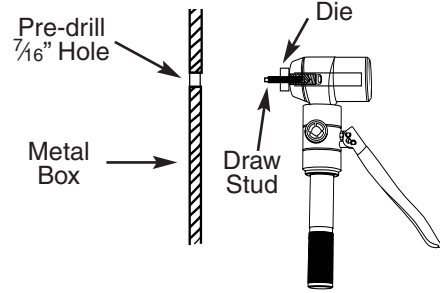

Figure 4
4. Insert the pull stud through the guide hole (Figure 4). Attach the  $\frac{1}{2}$ " punch to the pull stud. Turn the punch until it is completely threaded onto the pull stud.